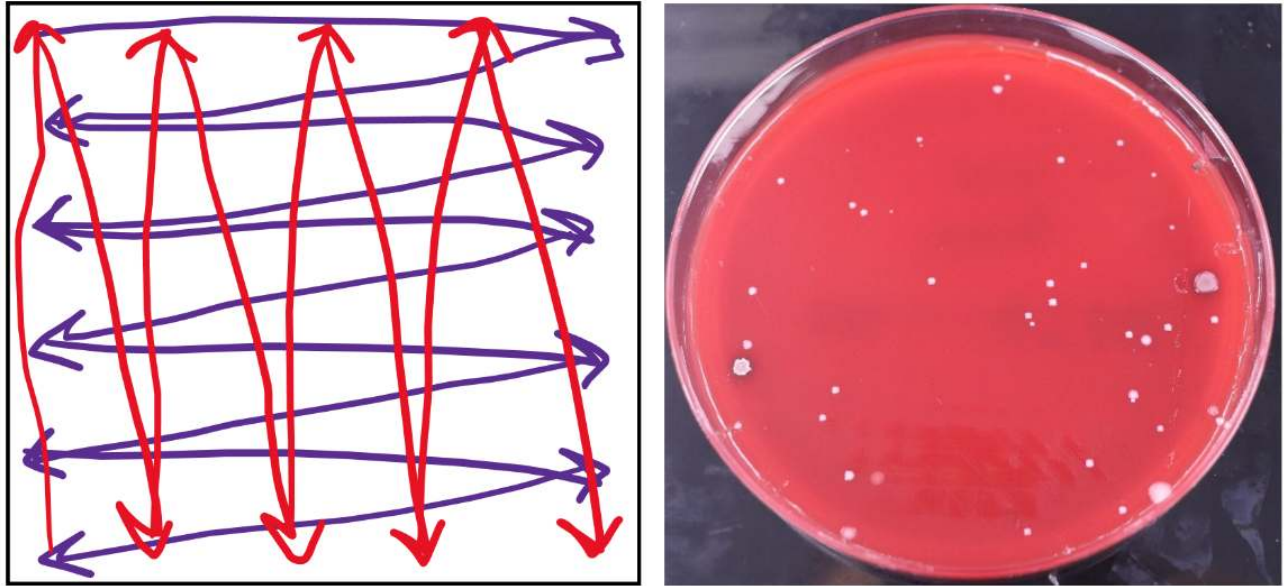

Figure 4.2. Swabbing technique. Left: Pattern of swabbing an object. Right: Swab plate results.
Bacteria in an environment can be cultured by removing them from the environment with a sterile swab. The swab is squiggled across a petri plate, then bacteria are isolated in pure culture using a streak plate. Figure 4.2 shows the pattern of swabbing an object: Swab is passed horizontally first (blue line), then vertically (red line) across the area being swabbed. Next, the swab is then squiggled across the entire width of the plate starting at the top and proceeding to the bottom. After incubation, bacteria have grown all over the petri plate surface (Figure 4.2 right). Isolated colonies can be selected and purified by streak plating to obtain a pure culture.
4. Swab a defined area of 50 cm²: 10 cm wide by 5 cm long. Swab in one direction then in the direction perpendicular to the first direction. (Figure 4.2, left image)